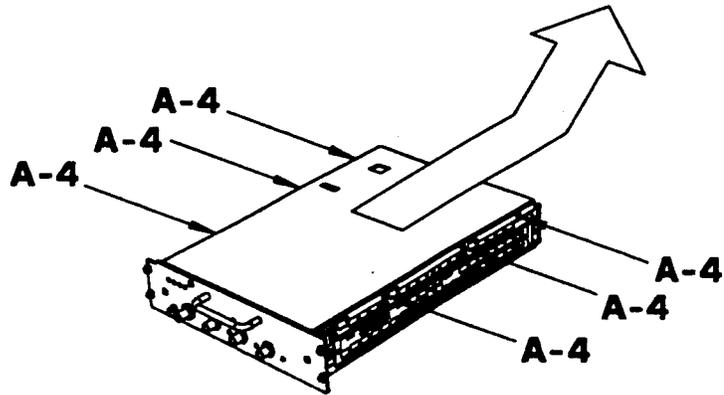

Figure 16-8D. HP E1740A Cover Removal
- 4 [A-4] Remove six top cover screws (H2) as shown in Figure 16-8D.
- 5 Slide top cover (MP2) back so it is clear of the rear connectors and lift off as shown in Figure 16-8D.